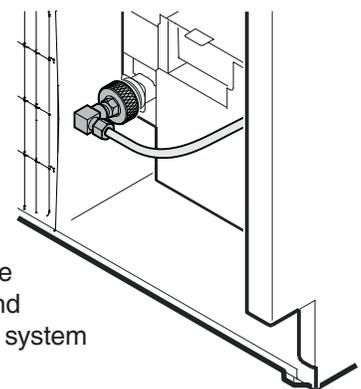

Figure 18
6. Connect the water line to the adapter in the respective configuration, depending on the type of water line used. **Figure 18** shows the configuration with a copper line as an example.
8. Screw the adapter onto the solenoid valve (**Figure 18**).